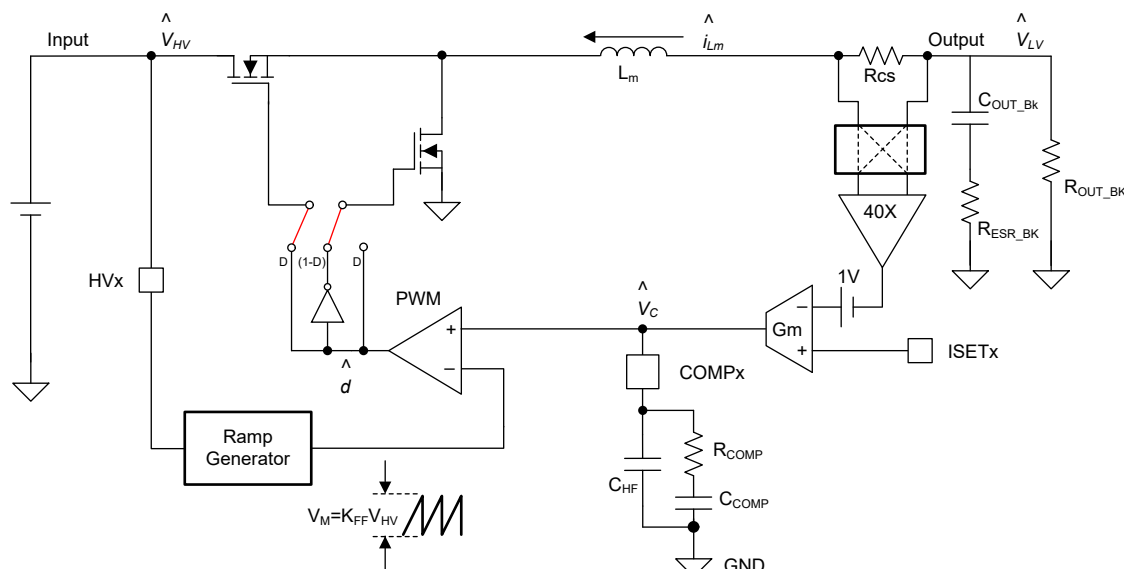

Figure 8-1. Buck Loop Block Diagram
Figure 8-1 shows the current loop block diagram of each phase in buck mode. V_{HV} is the input while V_{LV} is the output.
Equation 29 indicates that the power plant is basically a first-order system. A Type-II compensator as shown in Figure 8-1 is adequate to stabilize the loop for both buck and boost mode operations.
- $Z_{COMP}(s)$ is the equivalent impedance of the compensation network seen at the COMP pin (see Figure 8-1)